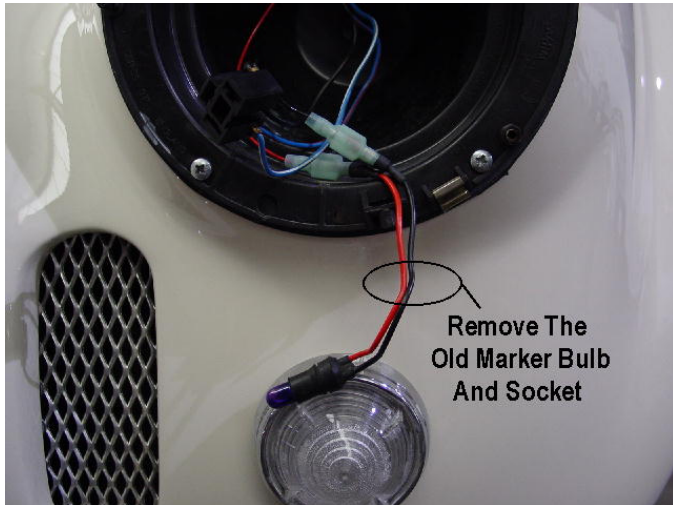

Fig. 3
- Remove the marker light socket shown in Fig. 3.